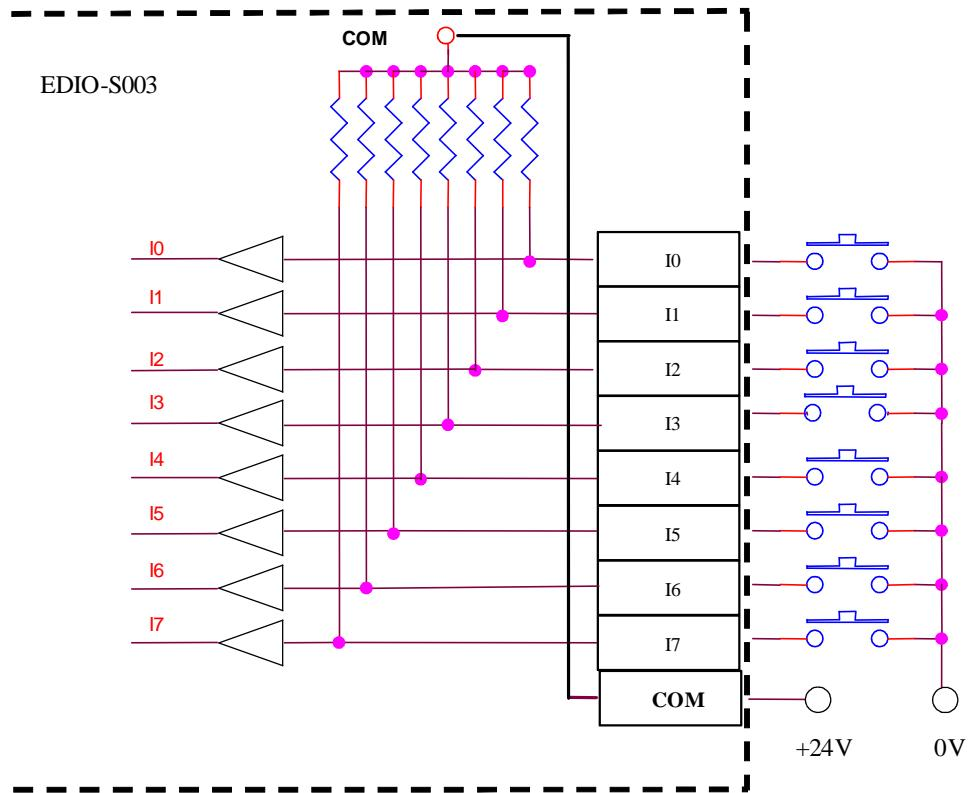

Fig. 9-1 Source-input type contact wiring
Fig. 9-1 depicts the source-input type application of the EDIO-S003 input connection wiring. When COM is connected to 24 V, it operates in source-input type and the current flows from the input connections. When one terminal of the SW Button is connected to I0-I7 and the other terminal is connected to 0 V, the control card will read the status as LOW (0); otherwise it will read the status as HIGH (1).